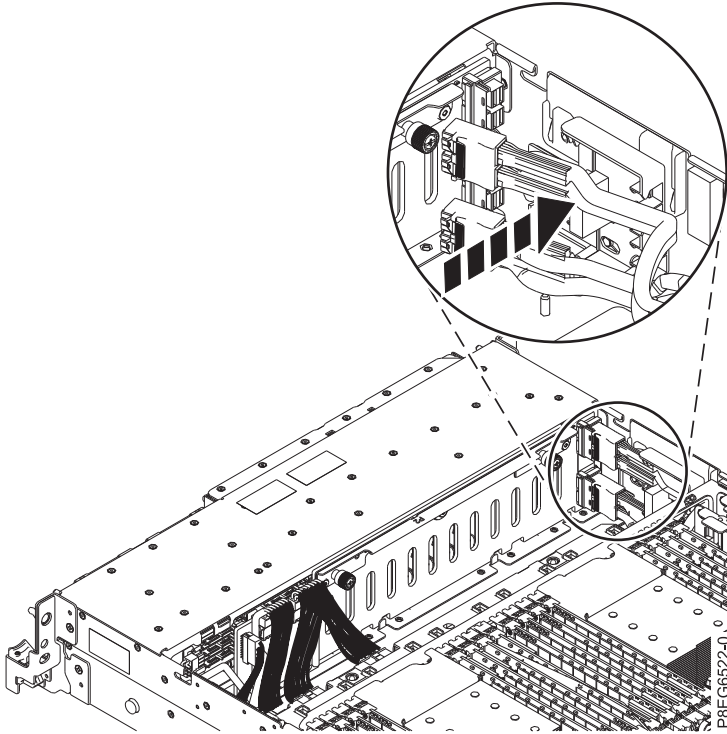

Figure 35. Reseating the front SAS cables
32. Reseat the front SAS cables into the guide block on the side of the chassis as shown in Figure 35.